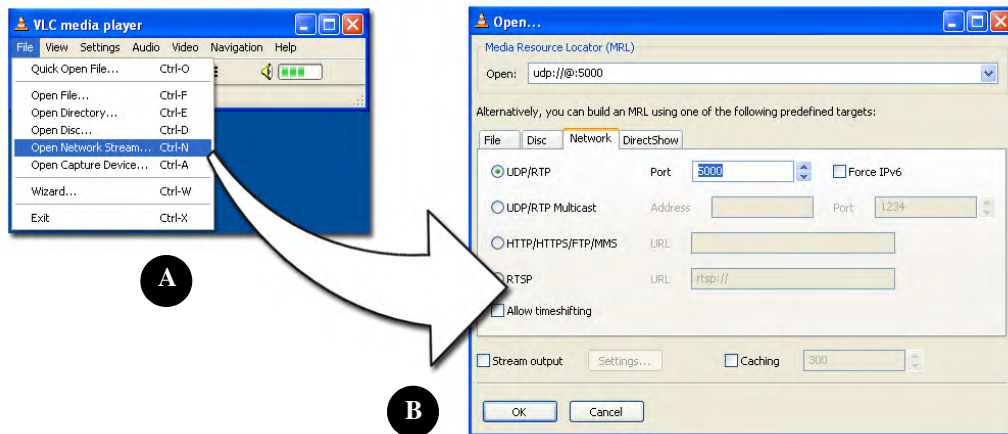

FIG. 48 VLC Player Adjustments (using a sample UDP stream to display both A/V in one window)
4. Double-click on the desktop icon to launch the pre-installed VLC player (**A** in FIG. 48).
5. Click **File > Open Network Stream** to launch the Open dialog where you can configure the properties of the incoming media stream (**B** in FIG. 48).